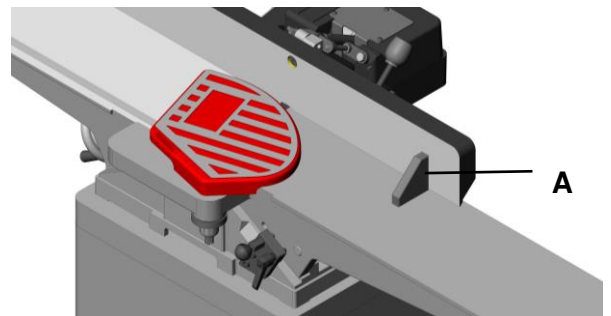

FIGURE 25
5. Place an angle measuring device on the table and against the fence to confirm a 90° setting (A, Fig. 25).
6. If the fence is not square to the table, release the lock handle (J), loosen the hex nut (F), and turn the stop bolt (E) until the fence is square to the table.
7. Tighten the lock nut (F) to retain the setting. Tighten the lock handle (J).